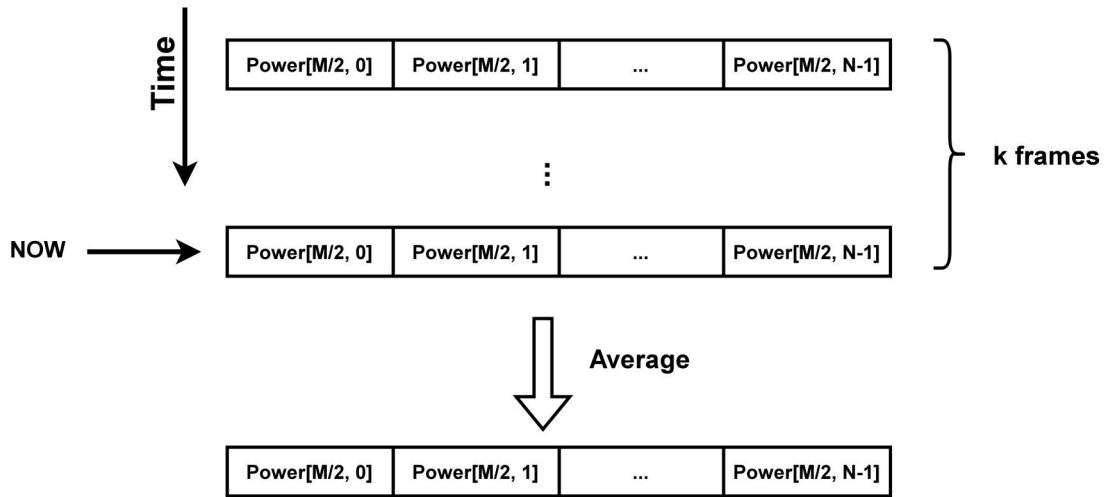

Figure 2-32 Smoothing Calculation
- (3) Smoothing: Based on the Single Frame result, calculates the mean of the most recent k frames, where k is configurable, to reduce random-noise fluctuations and improve target-detection stability. The calculation flow is shown in Figure 2-32.